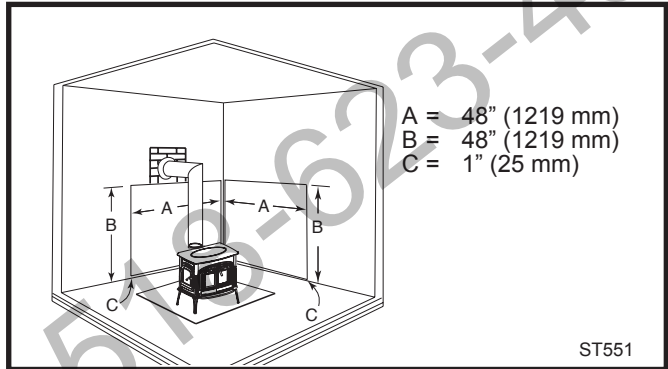

Fig. 16 Parallel installation with rear wall pass-through, two wall shields.
**Parallel installation with rear wall pass-through, two wall shields.** Fig. 16: Reduced clearances for both rear and side walls. Wall shields may meet at corner if desired. Shielding for connector is centered behind connector. Wall pass-through must comply with codes.